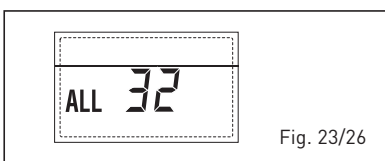

Fig. 23/26
- RS-485 BOARD COMMUNICATION ANOMALY IN MODBUS MODE "ALL 33" (fig. 23/27)